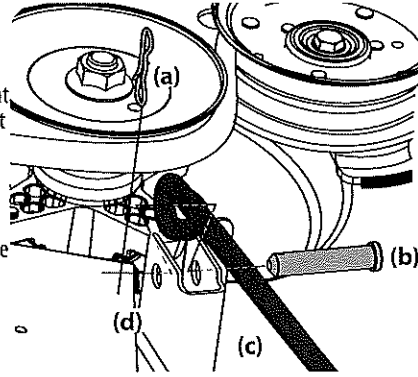

Figure 46
- b. Remove the third bow-tie pin (a) from the clevis pin (b) that secures the front deck control rod (c) to the front deck lift bracket (d). Remove the clevis pin (b). See Figure 46.